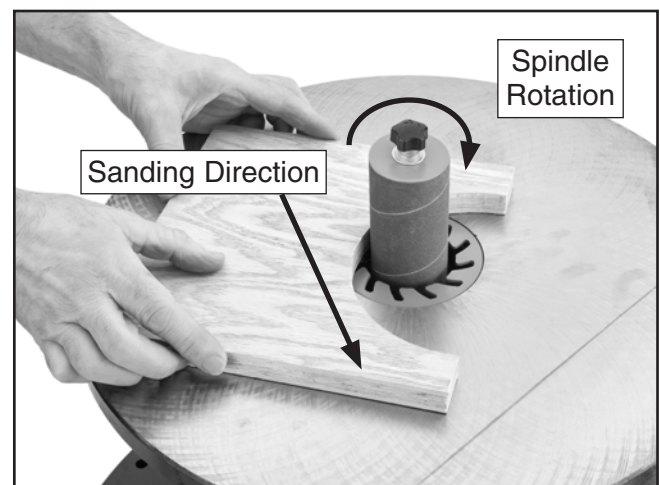

Figure 14. Sanding workpiece.
3. Using both hands, guide the workpiece against the sanding sleeve in a right-to-left manner, as shown in **Figure 14**. **DO NOT** force the workpiece against the sanding sleeve.